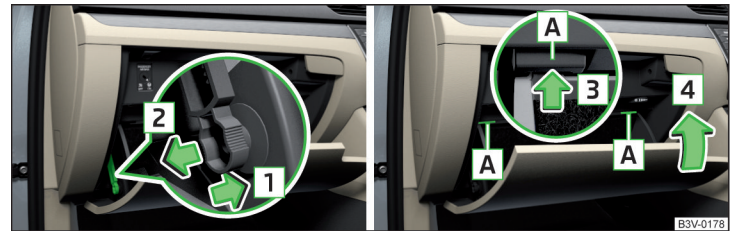

Fig. 267 Storage compartment on the front passenger side
- Unlock the brake control linkage in the direction of arrow **1** » Fig. 267.